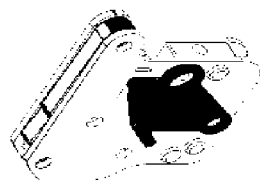

Figure 2
2. Insert the blocker with out the blocker screw through the hole in the right hand side plate of the trigger housing as shown in Figure 2.